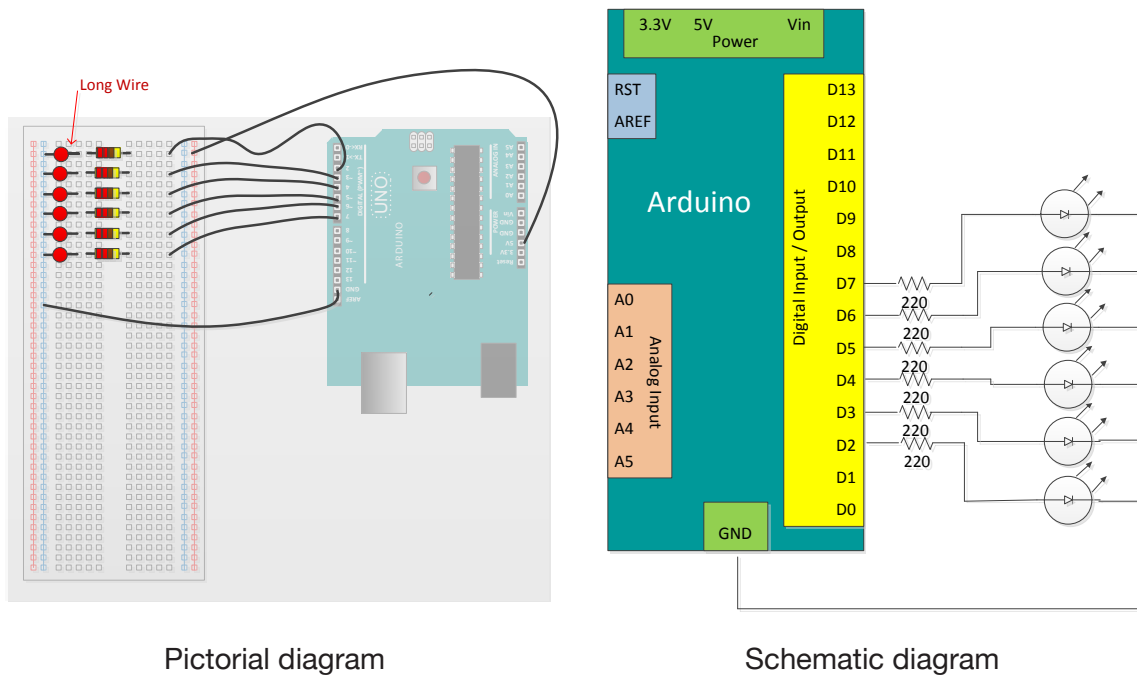

Figure 4-7. Pictorial and schematic diagrams of LED connections to the Arduino™
1. Connect the Arduino™ to a set of six LEDs and resistors as shown in Figure 4-7.